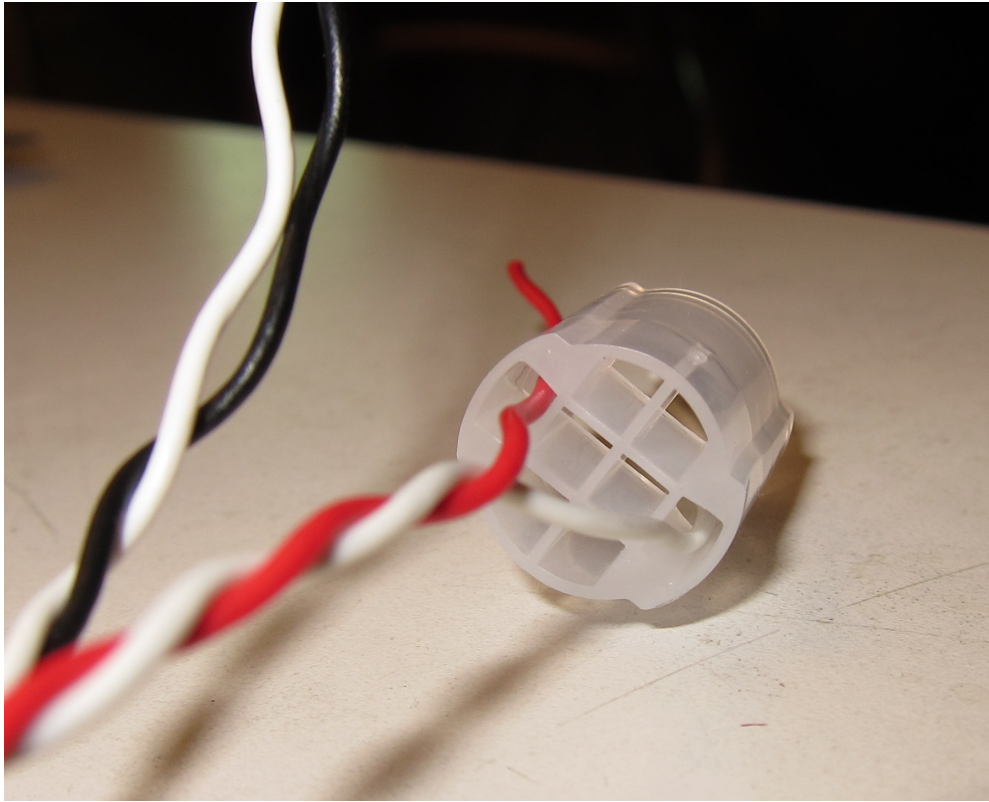

Figure 7: Threading the red/white wires through the switch plastic guard.
- (f) Thread each wire through the plastic guard as shown in Figures 7 and 8.